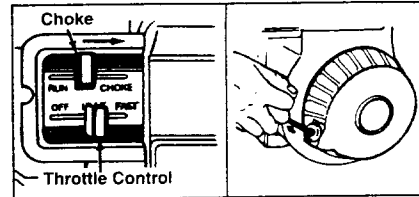

FIGURE 13A-MODEL 430
2. Place the throttle control lever in START position. See figure 13A.